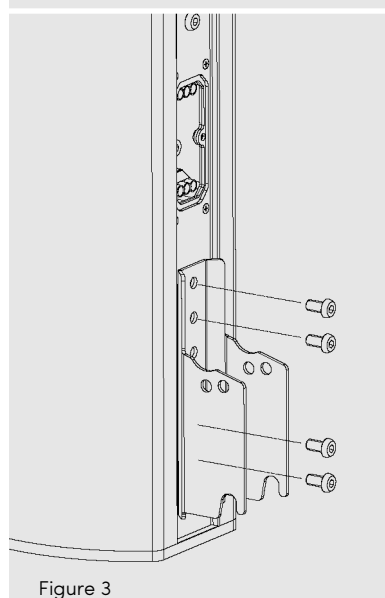

Figure 3
3. Fix the loudspeaker to the **WLX-100/WLX-221** mounting plate. Apply medium-strength thread lock fluid to all screws. On both brackets, use four of the locking screws you just removed. Tighten all screws according to the required torque. **SEE FIGURE 3.**